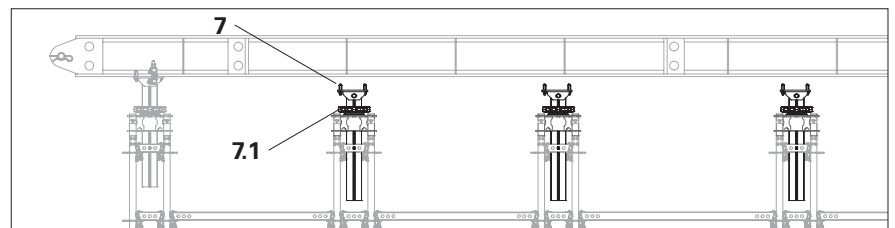

Fig. A7.05a
1. Remove the Girder Clamp HD 70 (23) from the Head Spindle TR 110-80/55 (7) of the heavy-duty props B to E.
3. Lower heavy-duty props A and F at the head spindles. (Fig. A7.05a)